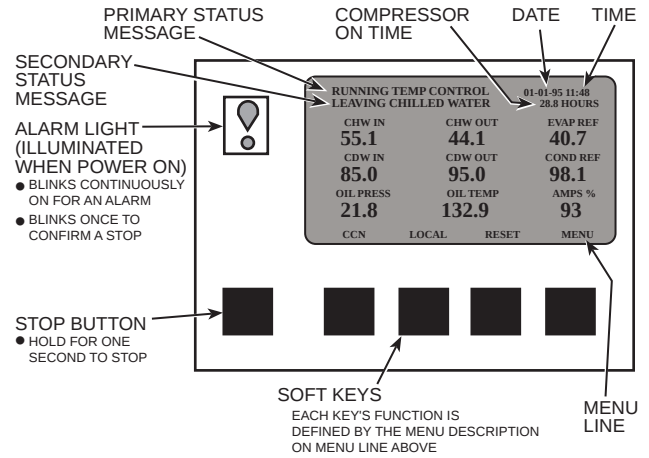

Fig. 17 — CVC Default Screen
- The CVC display automatically reverts to the default screen after 15 minutes if no softkey activity takes place (Fig. 17).